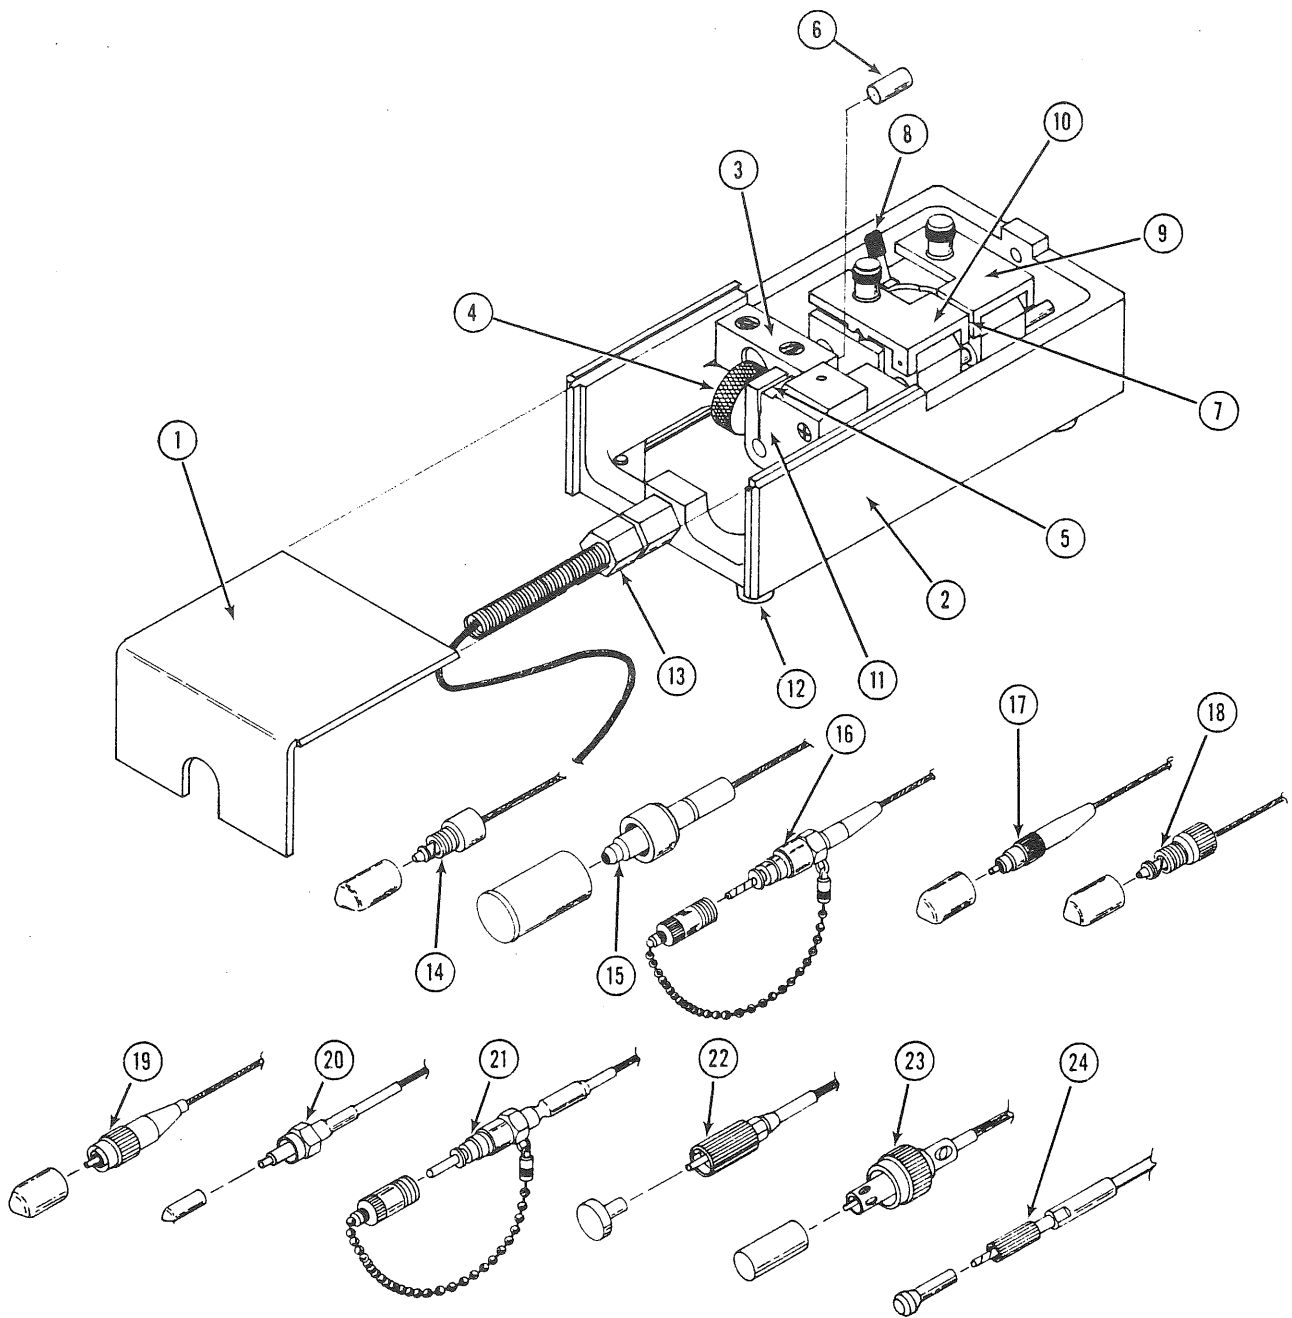

Figure 1. Fiber Adapter with Available Cables.
2. Remove the top sliding cover (1-1 -- see Figure 1, item 1) from the FA housing (1-2).